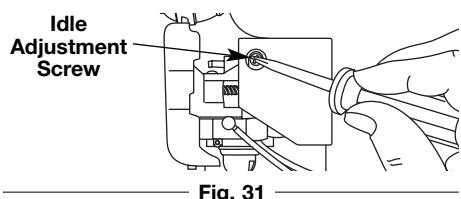

Fig. 31
The idle speed of the engine is adjustable. An idle adjustment screw is reached through a hole in the top of the engine cover (Fig. 31).
2. Release the throttle trigger and let the engine idle. If the engine stops, insert a small phillips or flat blade screwdriver into the hole in the air filter/muffler cover (Fig. 31). Turn the idle speed screw in, **clockwise**, 1/8 of a turn at a time (as needed) until the engine idles smoothly.